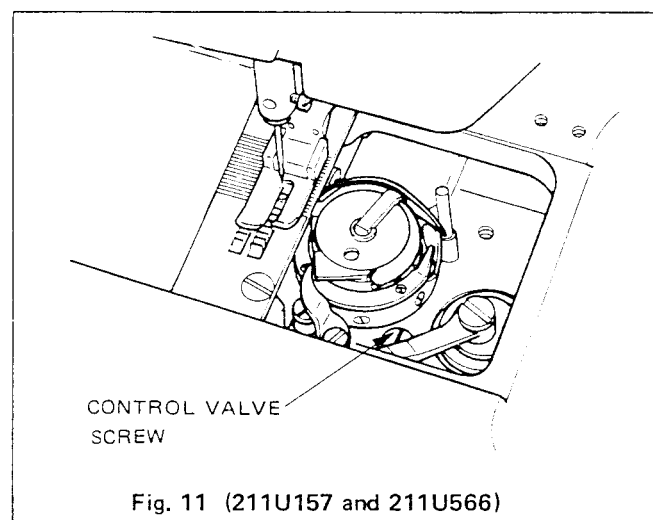

Fig. 11 (211U157 and 211U566)
2. Turn control valve screw shown in Fig. 11 clockwise for more oil; counterclockwise for less oil. Re-tighten control valve set screw.